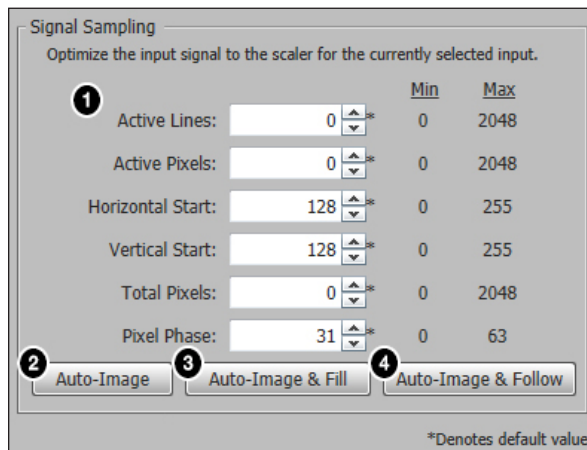

Figure 47. Signal Sampling Panel
To manually adjust signal sampling settings, enter a value within the Min and Max values displayed to the right of each adjustable settings (see figure 47, ①) or click the **Up** or **Down** arrows. An asterisk beside a chosen value indicates that it is a default value.